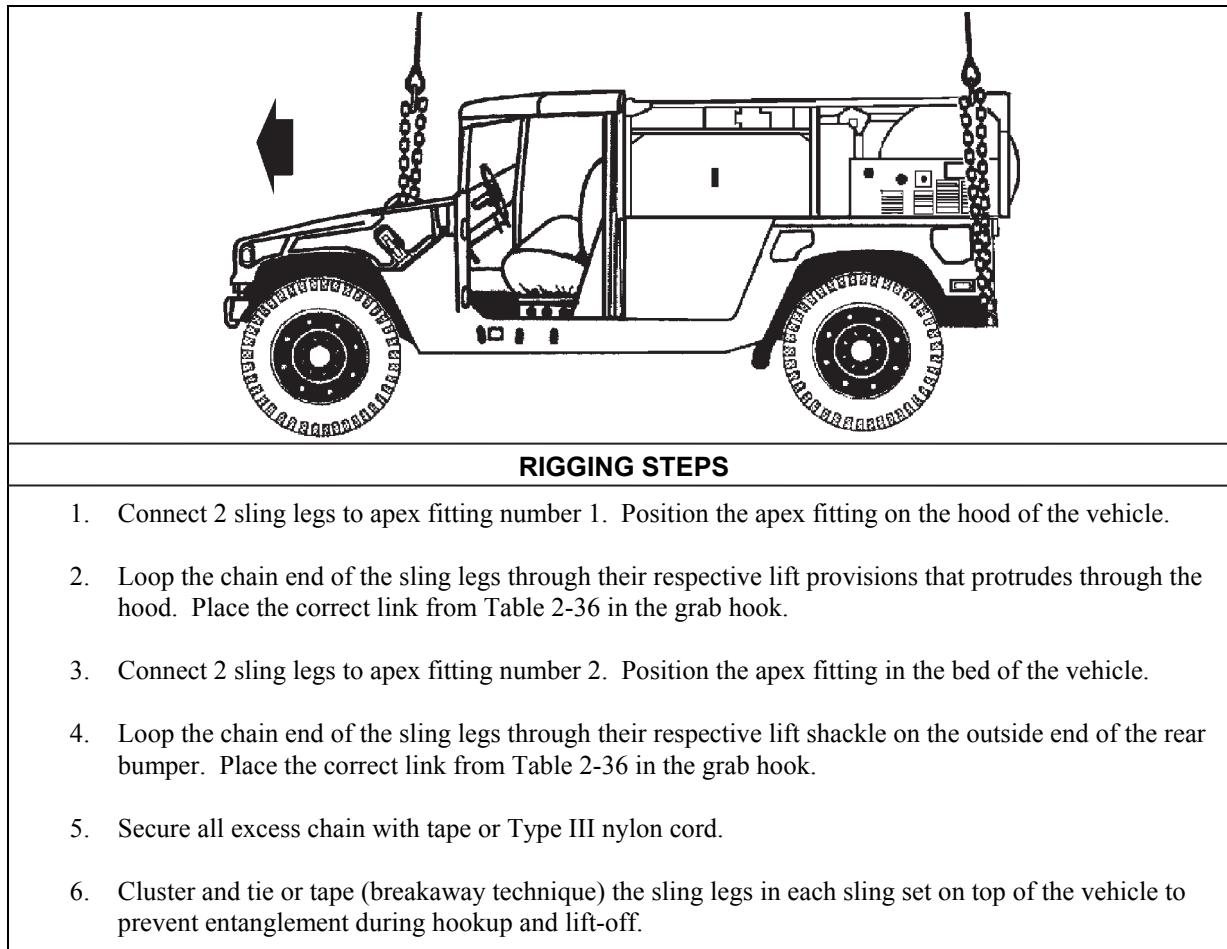

Figure 2-35. M1037 with Compressed Air-Foam System, Mobile
- **Rigging.** Rig the load according to the steps in Figure 2-35.